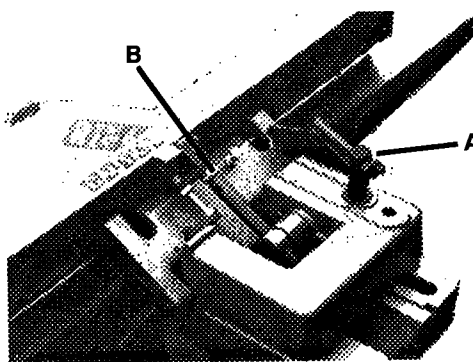

FIGURE 13
Fence adjustments are made with the lock handles shown as A in Figure 13 and B in Figure 14. To slide the fence forward or back on the table, loosen lock handle A in Figure 13, slide the fence to the desired position and tighten handle A Figure 13 to secure fence.
2. Remove entire fence assembly by removing lock handle A (Fig. 13) and lifting the fence off the machine.